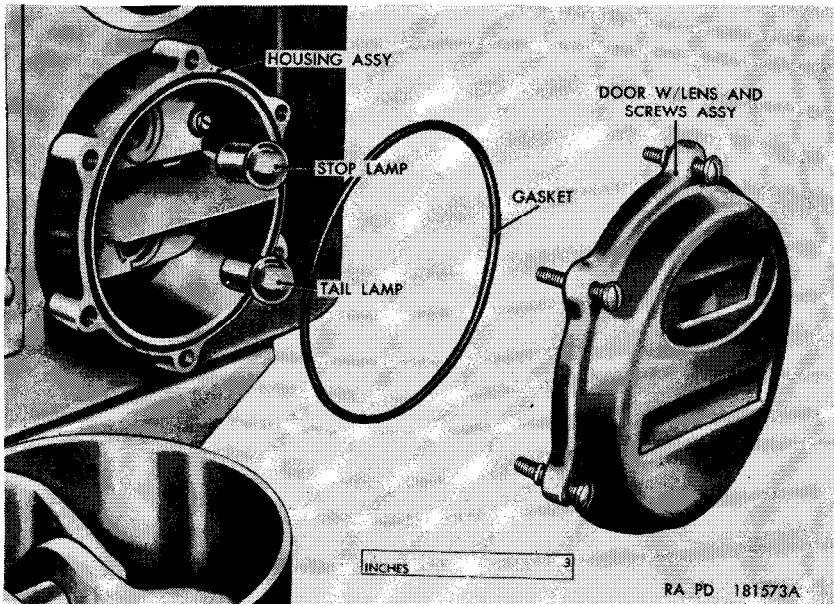

Figure 77. Blackout taillight and stoplight assembly—partially exploded view.
*a. Blackout Taillight and Stoptlight Assembly (Right) (fig. 77).*
- (1) *Lamp replacement.* Unscrew the six screws securing the door with lens and screws assembly to the housing assembly and remove the door and gasket. Push defective lamp in and turn counterclockwise to remove. Insert the new lamp and turn clockwise to lock in place. Examine